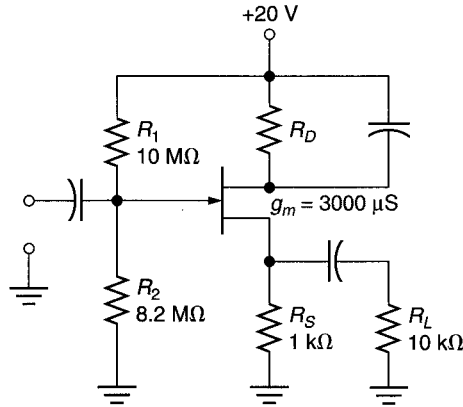

FIGURE 12.69
42. Determine the ranges of  $A_v$ ,  $Z_{in}$ , and  $Z_{out}$  for the amplifier in Figure 12.69.